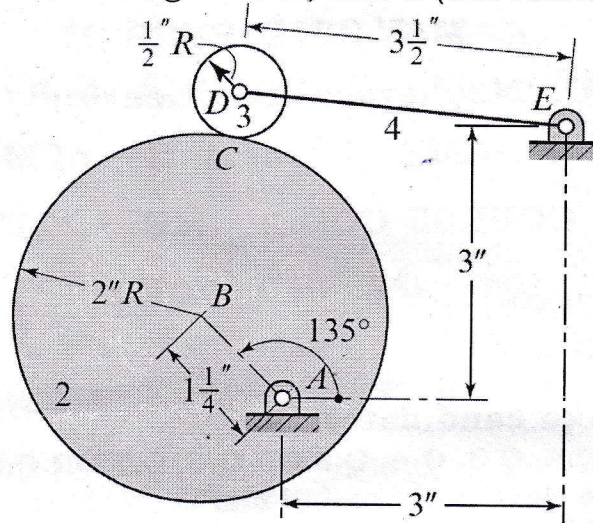

Figure 2
- b) For the circular cam in the posture as shown figure 2, the angular velocity of the cam is  $\omega_2 = 15 \text{ rad/s}$  ccw. There is rolling contact between the cam and the roller, link 3. Find the angular velocity of the oscillating follower, link 4. (Use ICR Method) [6]